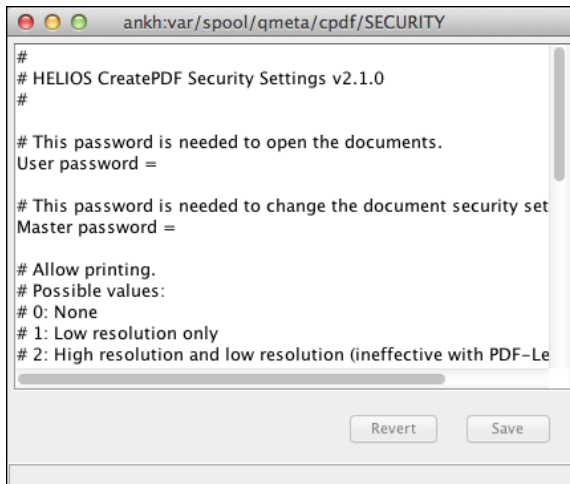

Fig. 8.4: Select “SECURITY” file
- Start HELIOS Admin and select the desired “Create PDF” printer queue. Open the security settings window (Fig. 8.4) of the respective “Create PDF” printer queue by clicking the `Edit Distiller Security...` button in the `Interface` tab of the printer queue configuration window.